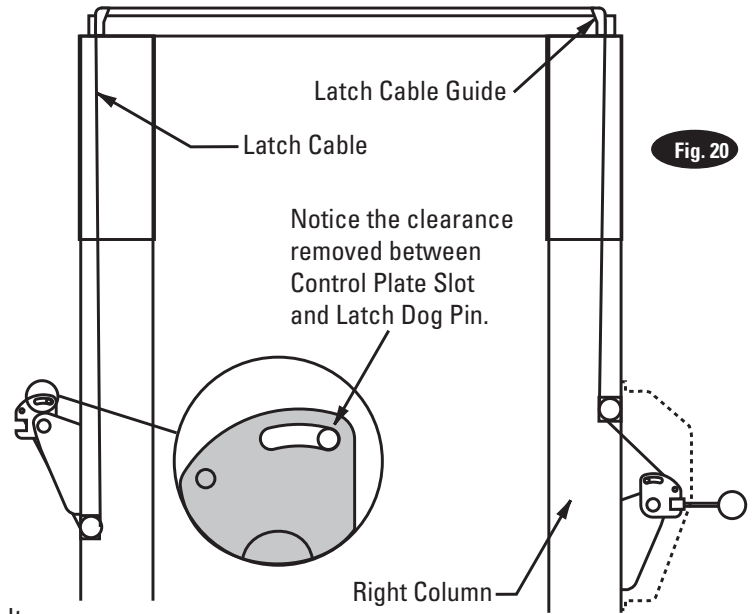
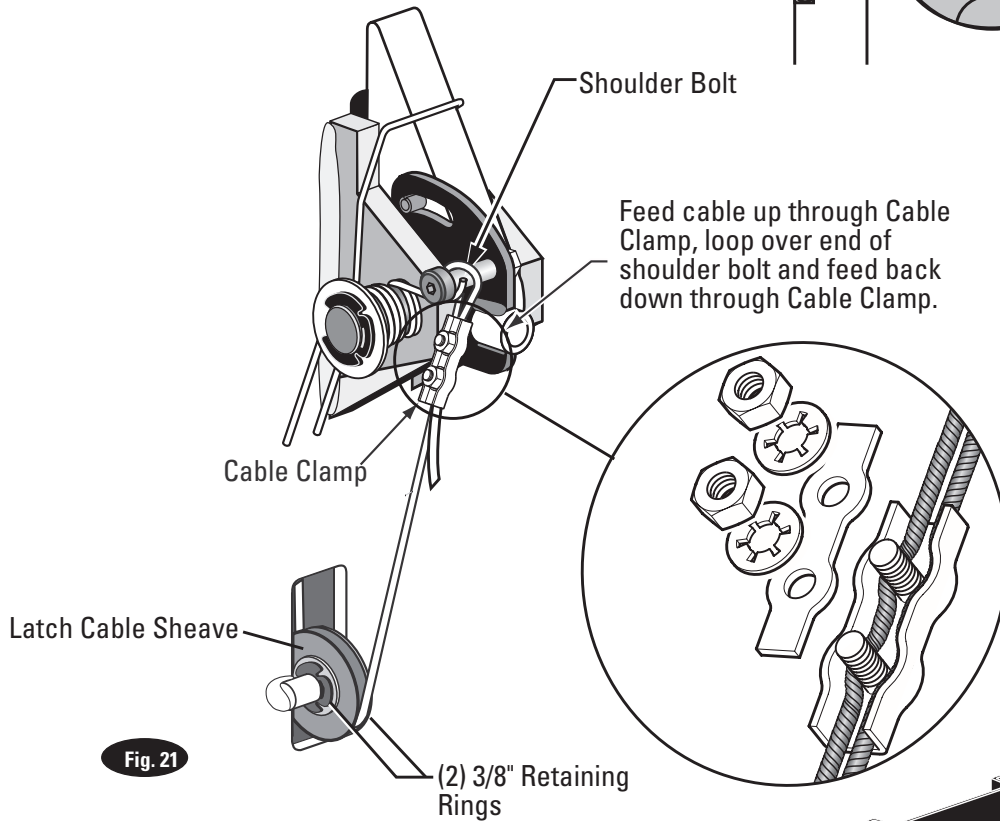

Fig. 20
Fig. 21
- D) Route cable up inside column and through the latch cable guide, Fig. 18a & Fig. 20.
- E) Continue routing cable to the left column latch cable guide, Fig. 18a & Fig. 20, routing the cable through the left column latch cable guide, Fig. 18a.
- F) Bring the cable down inside the left column and feed the end of the cable through the lower latch cable sheave slot so that the cable is now back outside the column, Fig. 21.
- G) Route cable under the bottom side of the latch cable sheave, Fig. 21.
- I) Insert cable in cable clamp along one side, loop around shoulder screw and back down, inserting cable along other side of cable clamp, Fig. 21. Place top back on clamp, barely tightening.
- J) Next, pull the control plate down, Fig. 20 & Fig. 21, to eliminate any clearance between the control plate slot and the latch dog pin, Fig. 20.
**17. Electrical:** Have a certified electrician run appropriate power supply to motor, Fig. 20 & 21. Size wire for 20 amp circuit. See Motor Operating Data Table.
**IMPORTANT:** Use separate circuit for each power unit. Protect each circuit with time delay fuse or circuit breaker. For single phase 208-230V, use 20 amp fuse. Three phase 208-240V, use 20 amp fuse. For three phase 400V and above, use 10 amp fuse. For three phase 380V use 16 amp fuse. For wiring see Fig. 20 & Fig. 21. All wiring must comply with NEC and all local electrical codes.